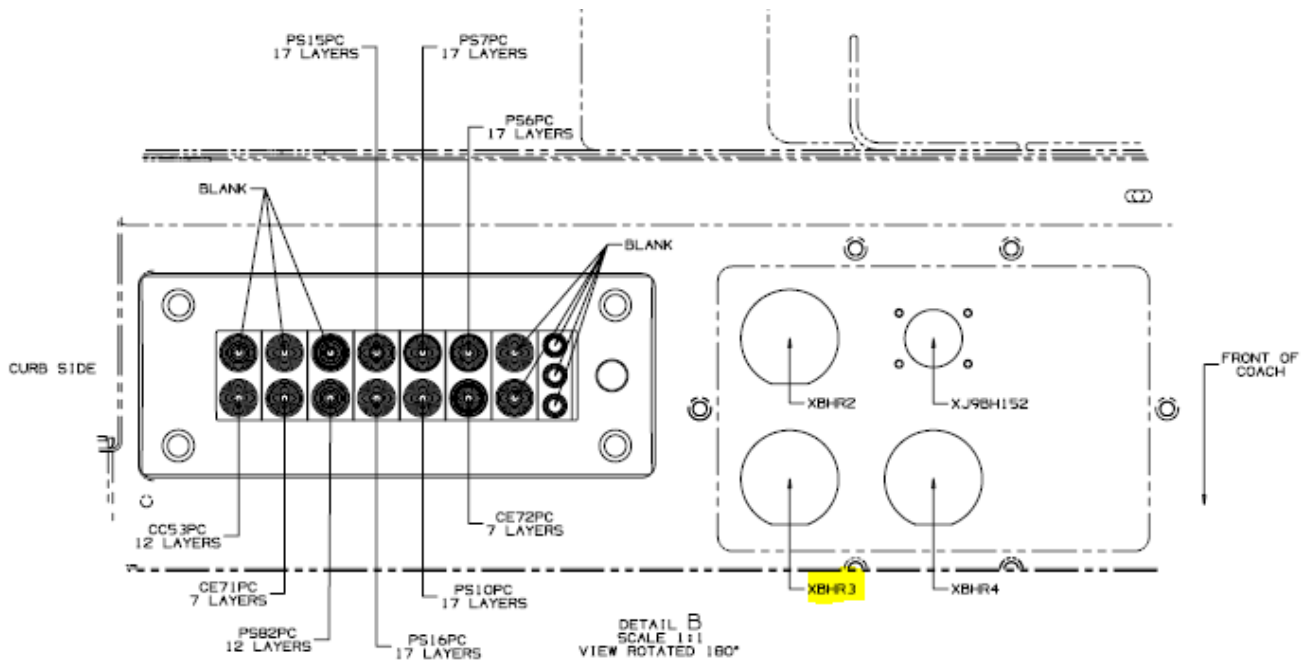

Figure 5: Rear bulkhead with connector XBHR3 indicated.
21. Locate XBHR3 at the rear curbside bulkhead shown below in Figure 5.